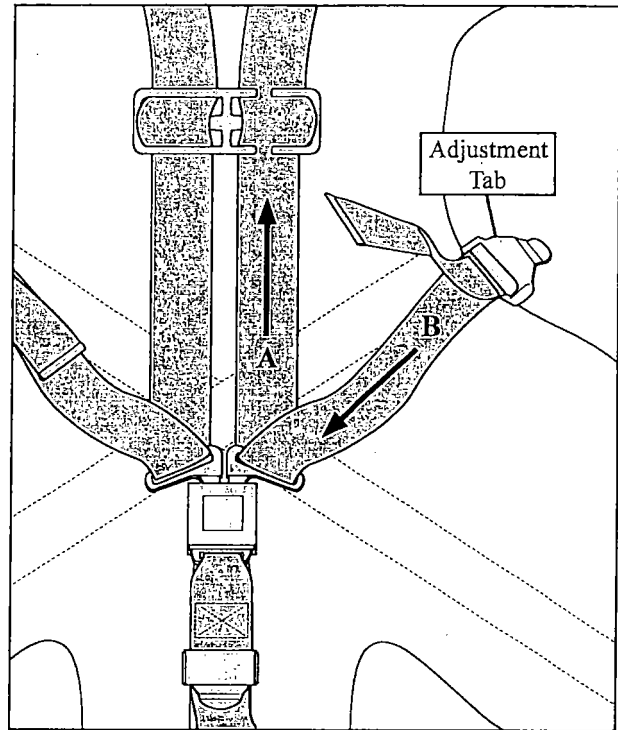
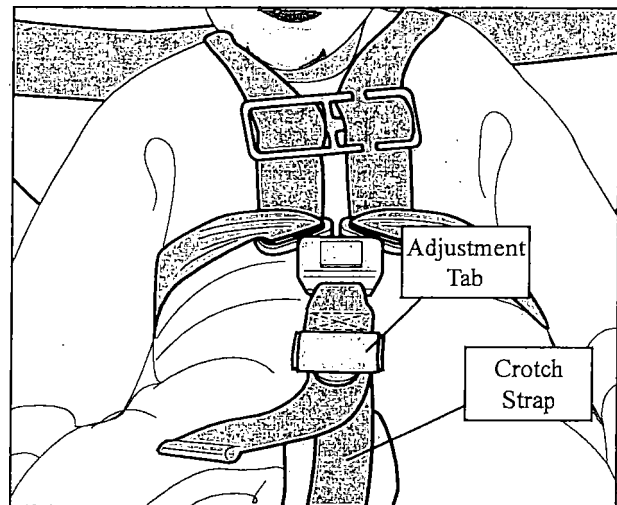

Figure 7 - Loosening the Strap
Figure 8 - Loosening the Crotch Strap
To loosen the straps, refer to Figures 7 and 8 and use the following procedures:
1. Grasp the adjustment tab (Figure 7) with one hand and pull the torso strap (B) back through the tab with your other hand.
2. Steady the central buckle with one hand and loosen the shoulder strap (A) by pulling it upward with the other hand.
4. Loosen the crotch strap by grasping the adjustment tab with one hand and pulling downward on the portion of the strap that rests against the body (Figure 8).